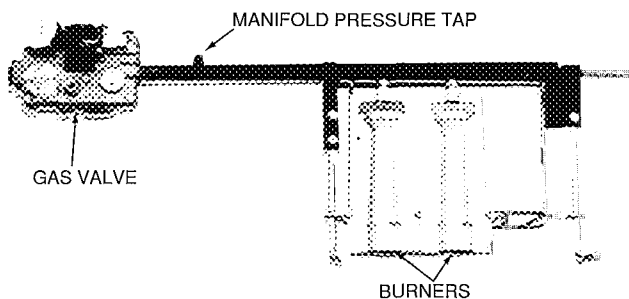

Fig. 22 — Burner Tray Details
12. Slide the burner tray out of the unit (Fig. 22).